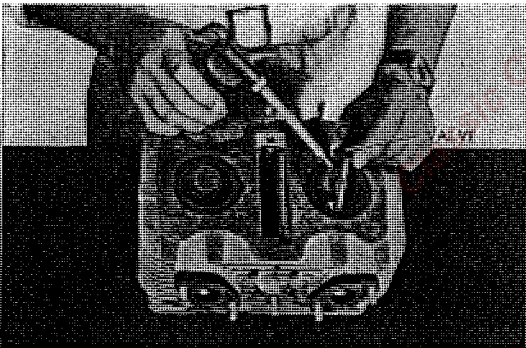

Fig. 3.35 Oiling the valve stem
1. Before the valve is assembled, the valve contact surface should be inspected for wear, pitting, or carbon. After cleaning, oil the valve stem, and the valve should be inserted from the combustion chamber side. (Refer to Fig. 3.35)